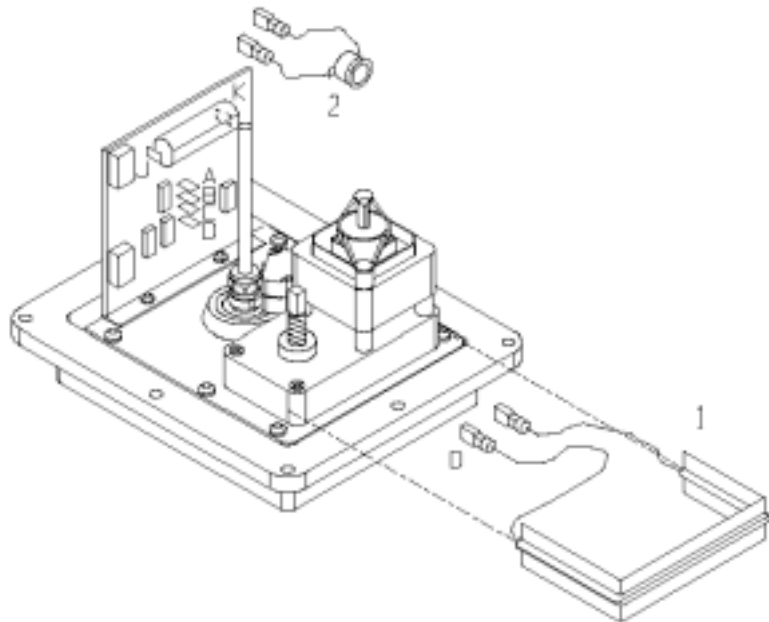

Figure 6: Heater/Thermostat Kit Part Identification
- 2) Locate the longer lead (Figure 6, part D) on the heater element and keep this lead on the left side of the motor gearbox (motor closest to you as indicated in Figure 6). Apply the adhesive surface of the heater element against the motor gearbox, wrap the heater element around both short sides and the backside of the gearbox (the side with the nameplate).
- 3) Route the long heater lead (D) between the gearbox and the limit switches.